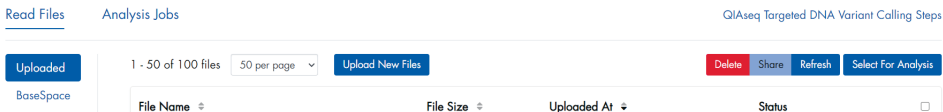

Figure 19. File Upload tab of the QIAseq Targeted DNA Panel Data Analysis Pipeline.
- In the **Read Files** tab, select BaseSpace to upload files from BaseSpace or select **Uploaded > Upload New Files** to upload files from your local drive (Figure 19).